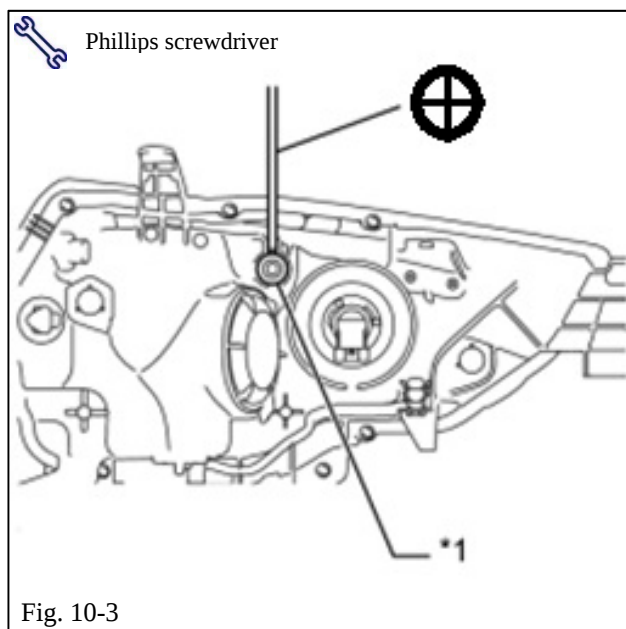

Fig. 10-3
- (1) Cover the headlight on the opposite side to prevent light from the headlight not being adjusted from affecting the headlight aiming process.
(2) Turn on the headlamps.
- (3) Adjust the headlight aim to within the specified range by turning aiming screw “V” with a screwdriver (Fig 10-3).